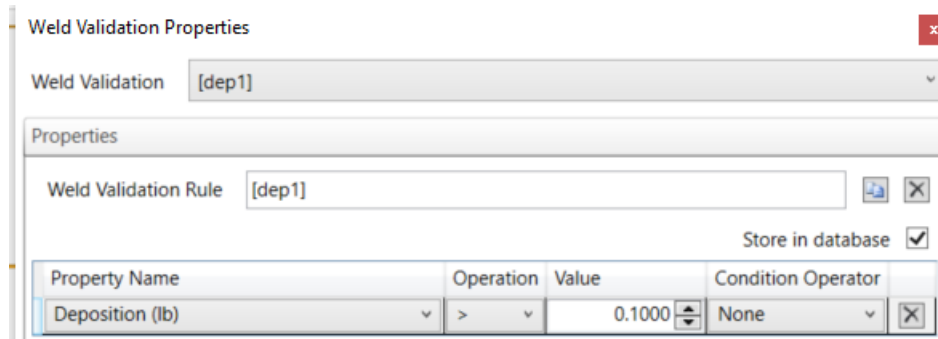

Figure 5.9 Weld Validation Saved in the Database
2. Edit the *Weld Validation Name* field and click the *Store in database* checkbox to enclose the name in square brackets (Figure 5.9).